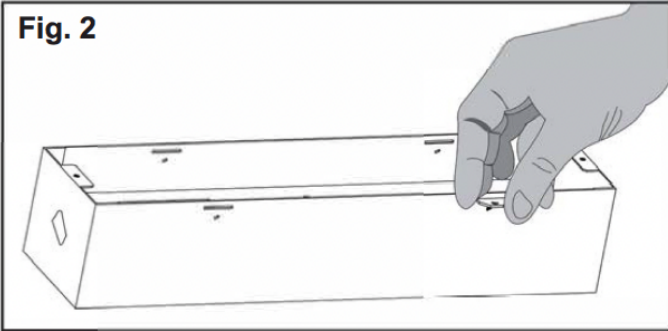

Fig. 3
3. Secure the screw holders with the small screws (provided) as shown in Figures 3 and 4a.